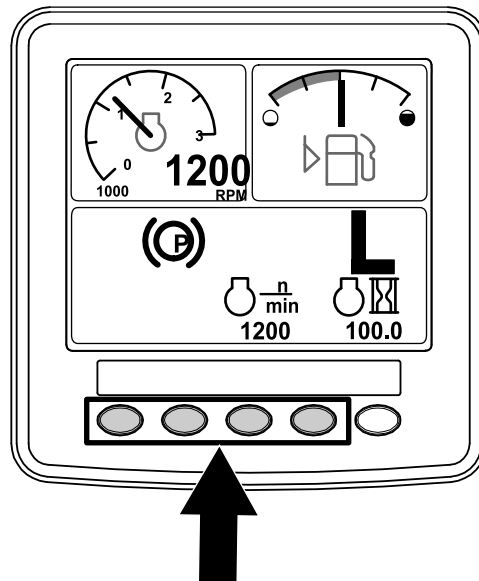

Figure 7
1. From the HOME SCREEN, press buttons either buttons 1, 2, 3, or 4 to access the pop-up menu bar at the bottom of the screen (Figure 7).